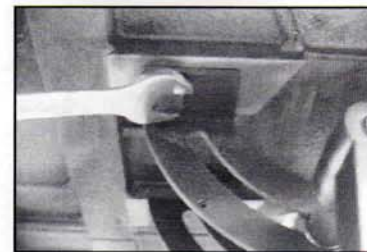

Fig. 3
2. To mount table, remove table insert and table pin from the table. Slide the table slot to the saw blade, slow moving to the center to table, make sure the table is located to the m8 hole (4 hole) and attach the spring washer, (Fig. 3) then replace table insert and table pin.